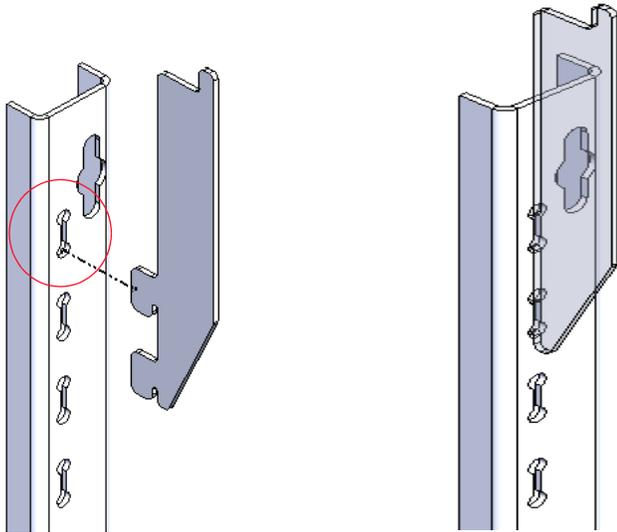

Figure 2. Front 2x shelf support arrangement (Place in top-most slot)
Step 1: Place the front clips as shown in Figure 2.